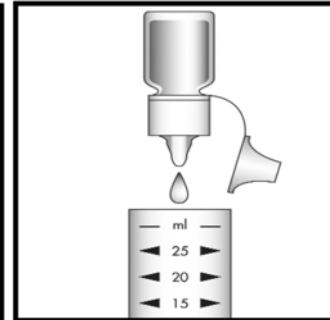

Figure 2
2. Add 6 drops of A-9800 Activator Solution (Figure 2). Stir briefly to mix the contents of the sample cup.